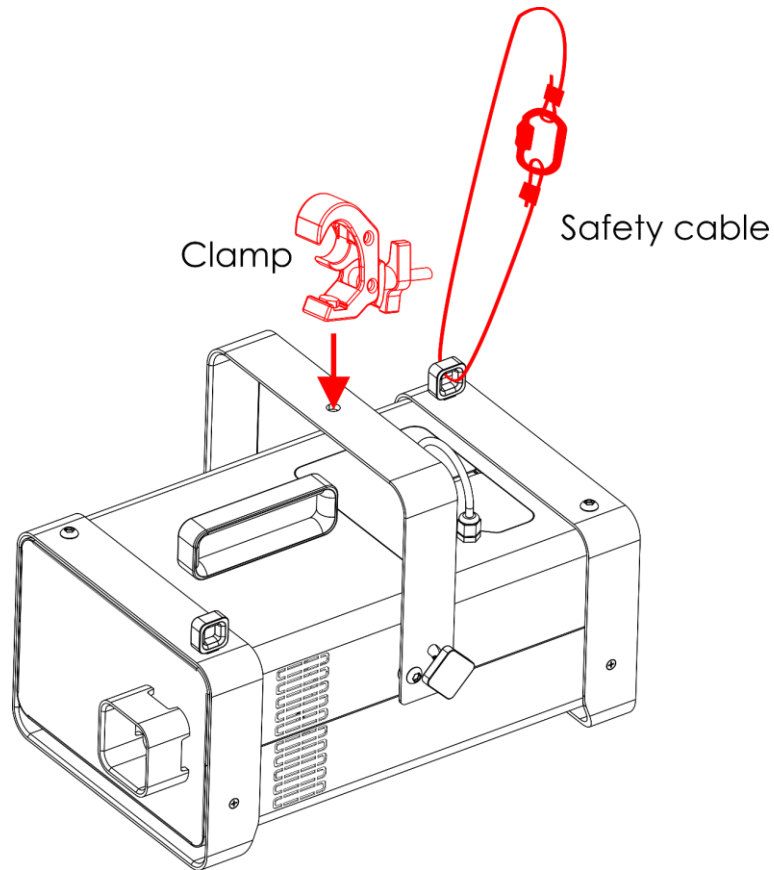

Fig. 06
- 01) Use a clamp to attach the device to the supporting structure, as shown in Fig. 06. Make sure that the device cannot move freely.
- 02) Secure the device with a secondary suspension, for example a safety cable. Make sure that the secondary suspension can hold 10 times the weight of the device. If possible, the secondary suspension should be attached to a supporting structure independent of the primary suspension. Put the safety cable through the **safety eye (03)**, as shown in Fig. 06.